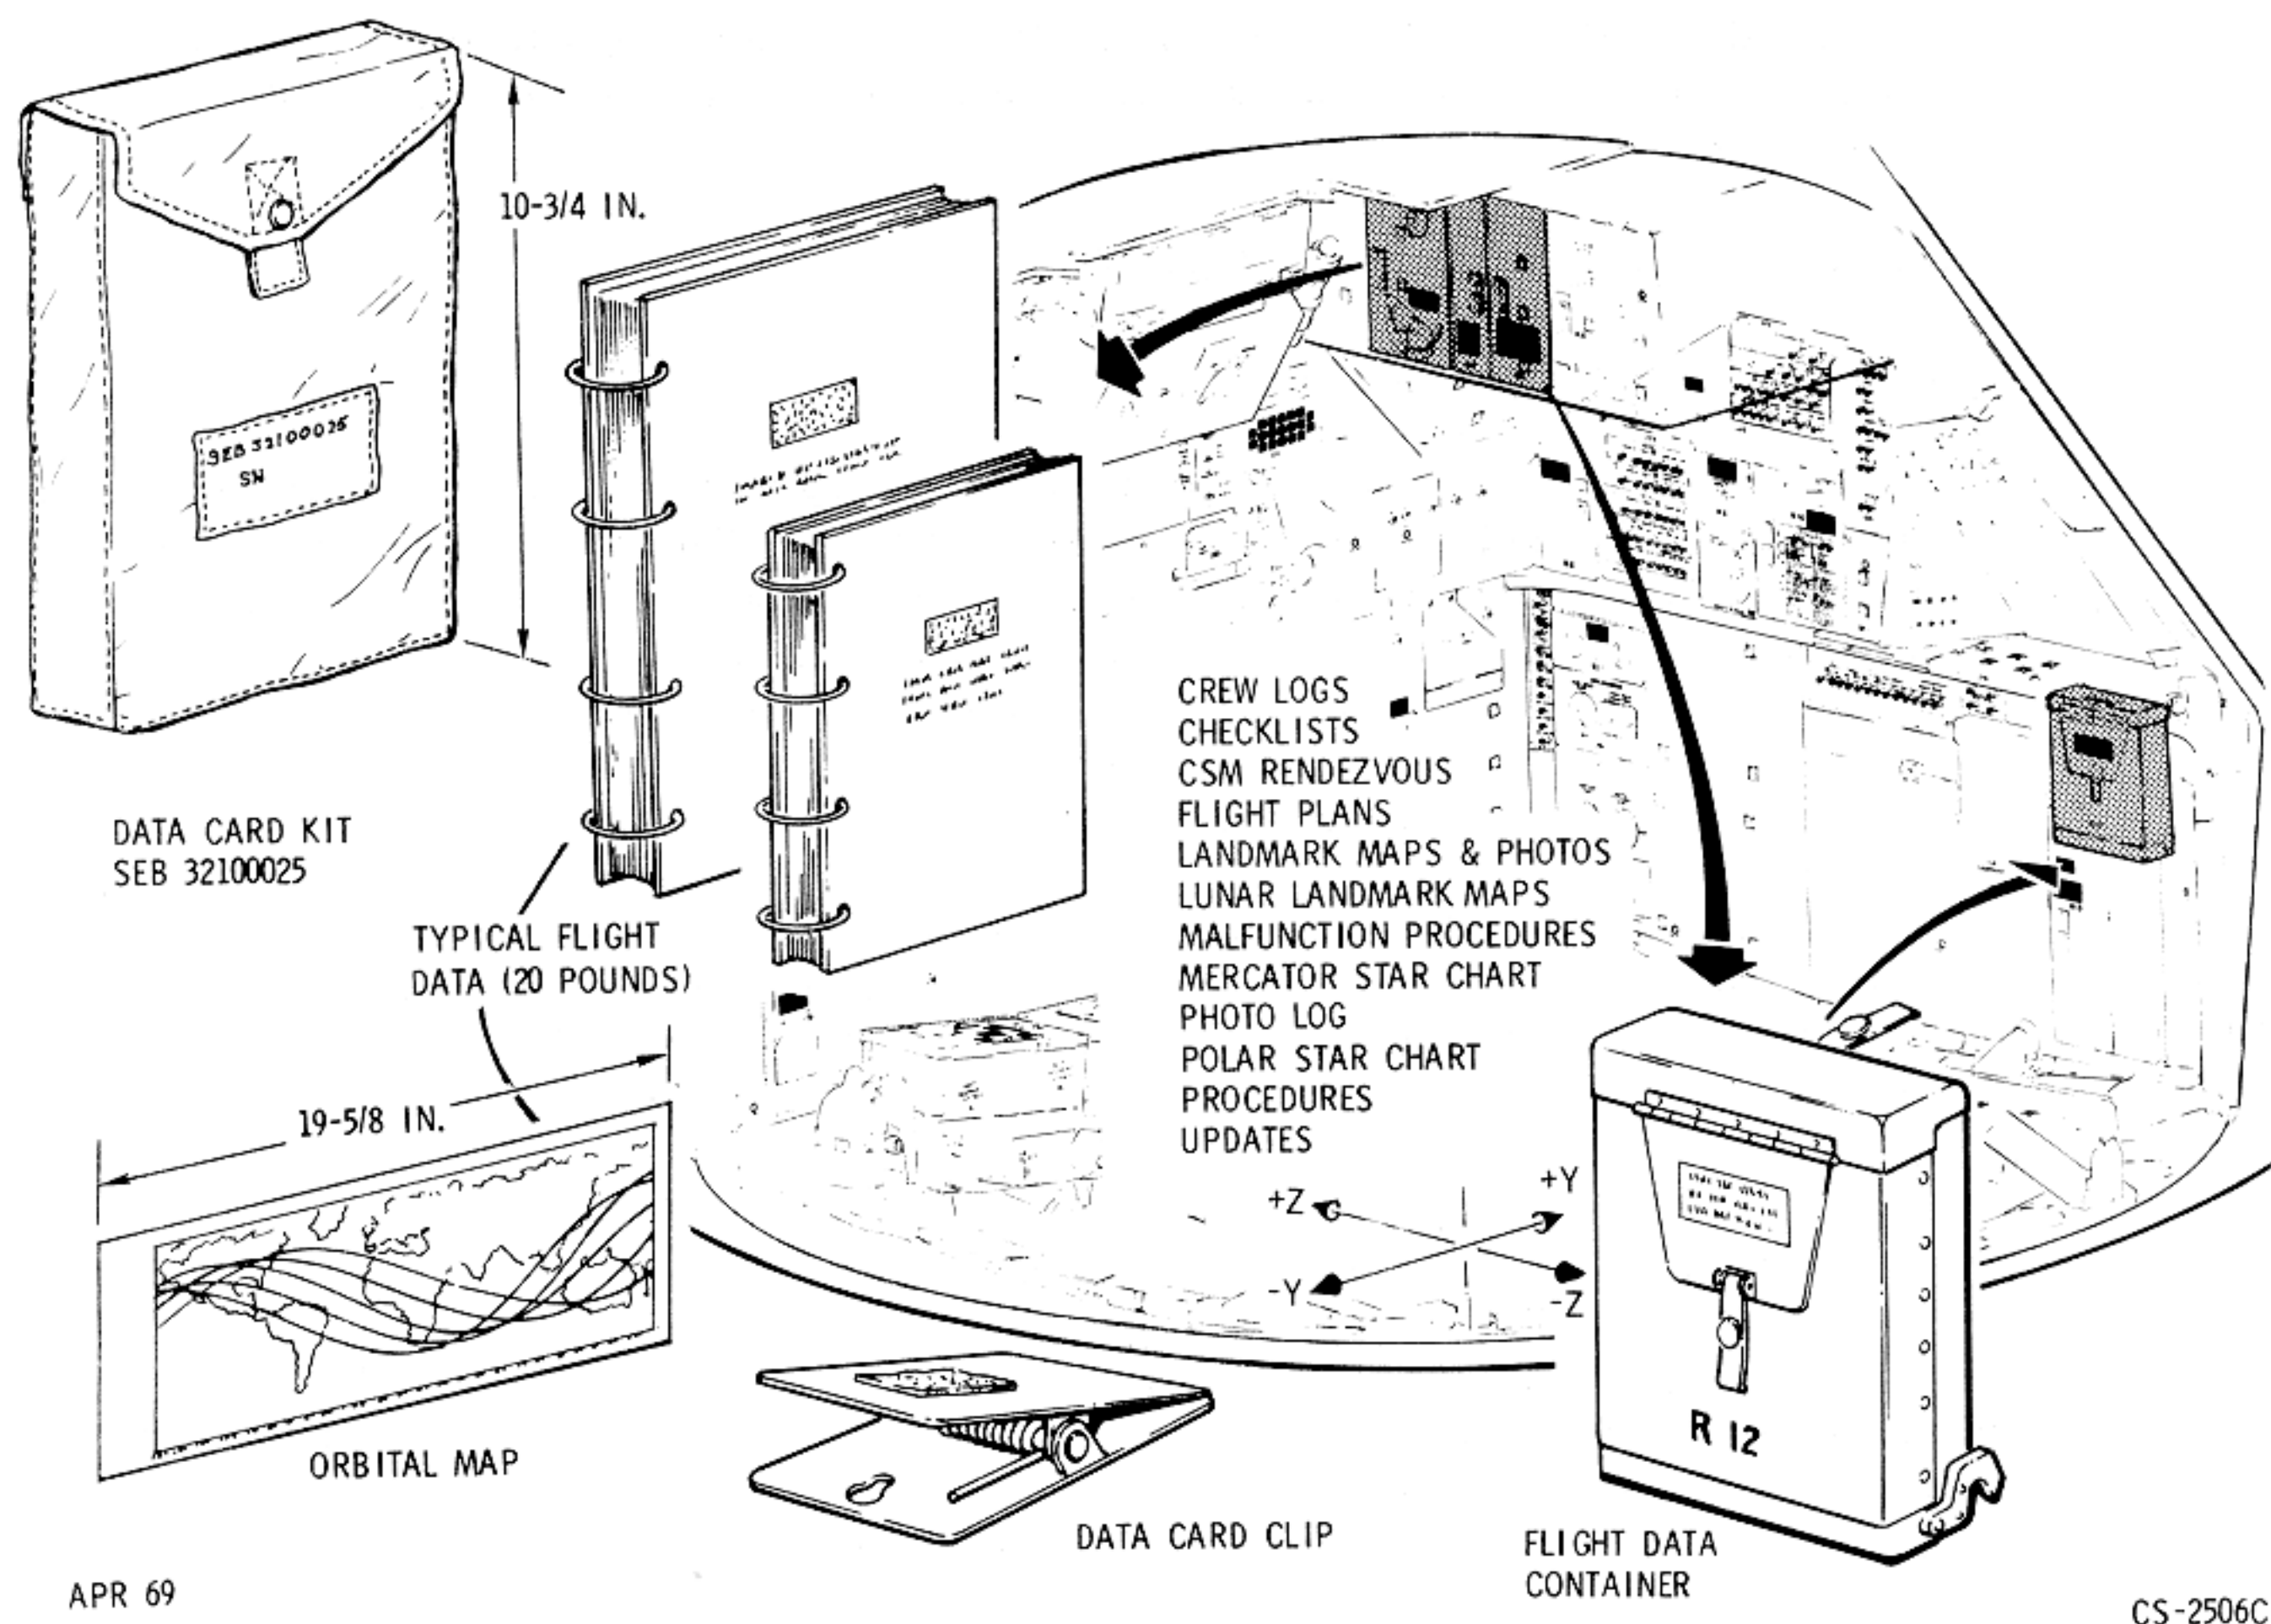

Figure 2.12-31. Flight Data File
2.12.5.1 Flight Data File (Figure 2.12-31).